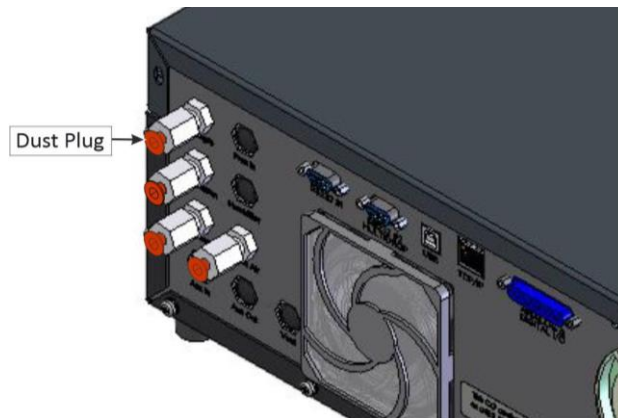

Figure 29 – Dust Plugs
1. Refer to Figure 29. Remove all the dust plugs.